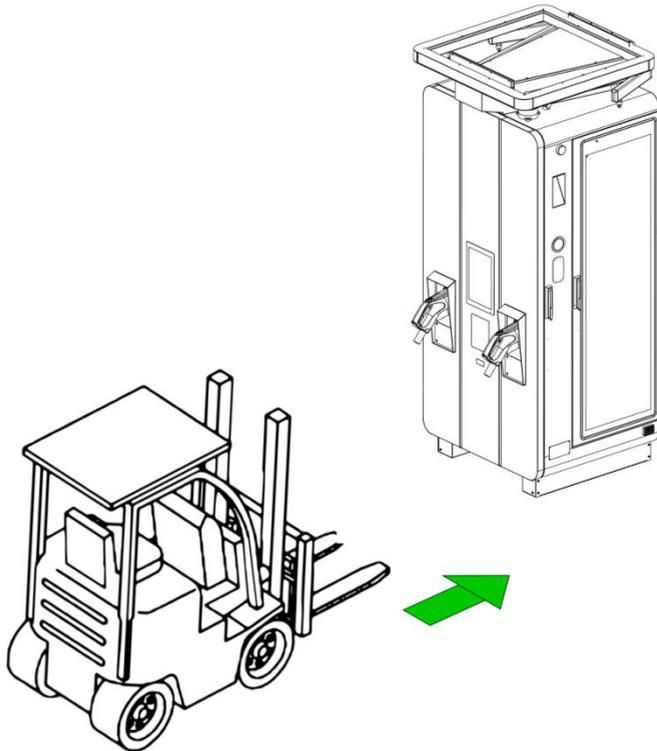

Figure 2.6.1 Forklift handling
① Transports chargers
- Adjust the width of double forks of forklift, insert forklift from the gap reserved by charger, as shown in Figure 2.6.1